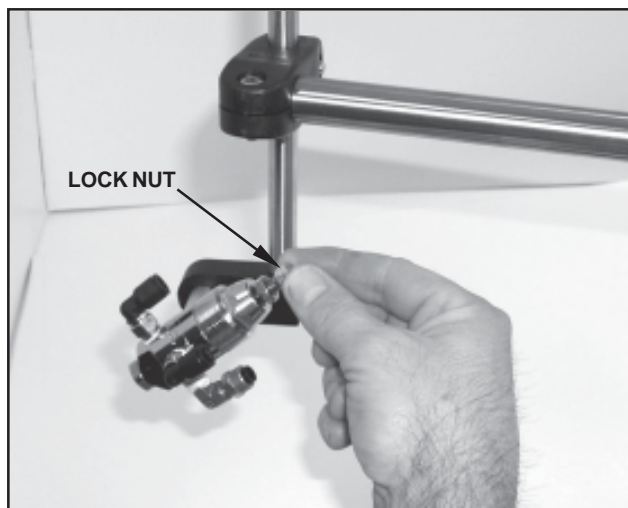

FIGURE 16
- 1- To adjust the fluid adjusting screw, use a 7/16" wrench and loosen the lock nut on the rear of the marker body by turning it counter-clockwise as shown in Figure 16.